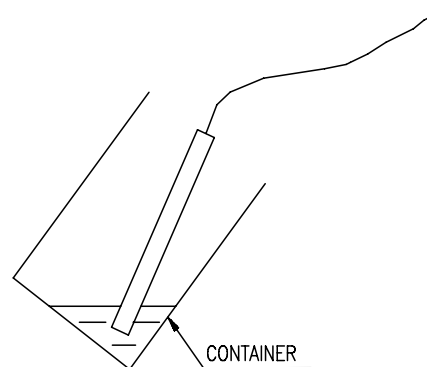

Fig. 7-5. Method of Solution Charging Bottom of Container
- (5) Open up the sampling service valve.
- (6) When solution starts being sucked into the Absorption Machine, watch carefully to ensure that air does not leak in.
- (7) Before the container becomes empty, tilt it so that air does not enter the tube. (Fig. 7-5.)